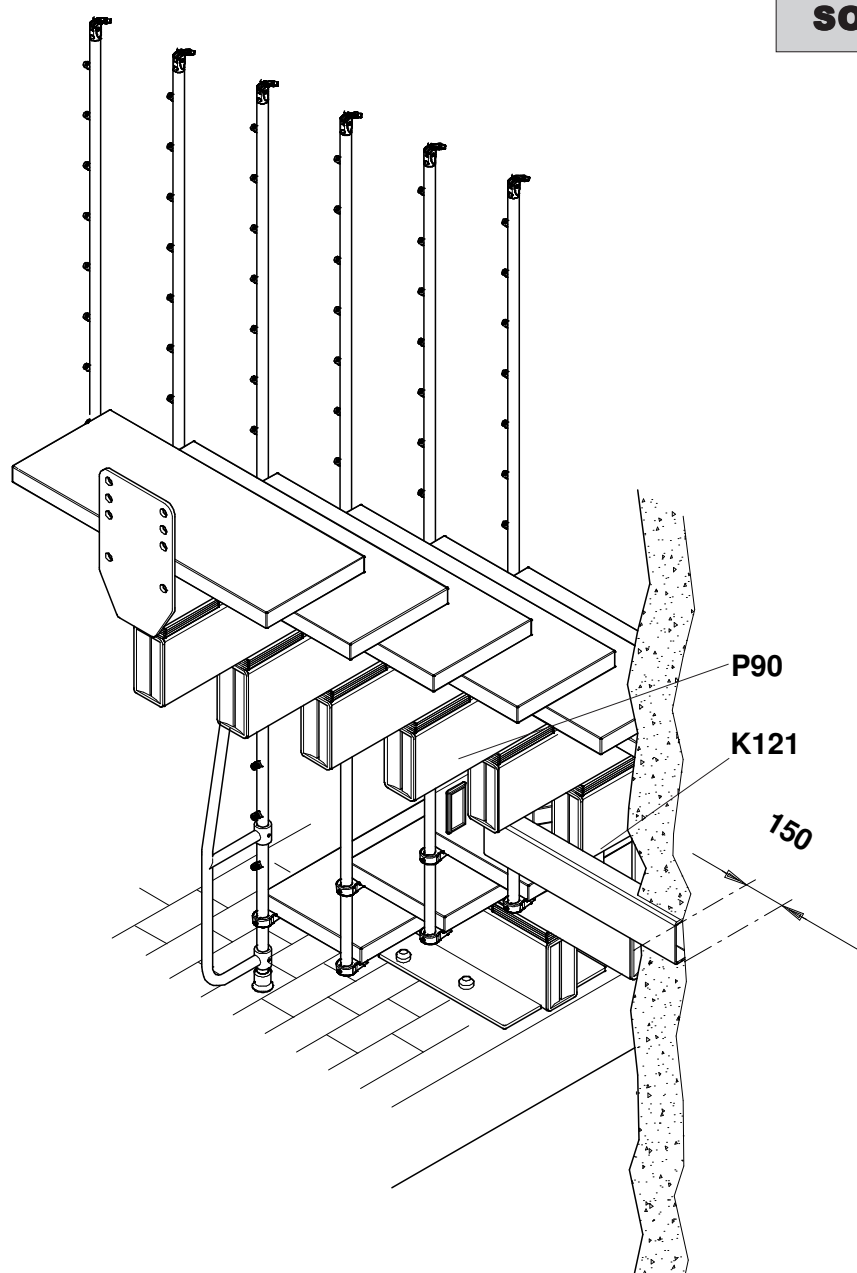

Fig. 38
- In certain cases, no support column may be added, as shown above; in such cases it is advisable to support the staircase by means of a K121 support bracket to be inserted by drilling a min 150 mm deep hole in the wall closer to the staircase and embed the bracket as described in fig. 38. Then mount the P90 closing cap on the pipe head.